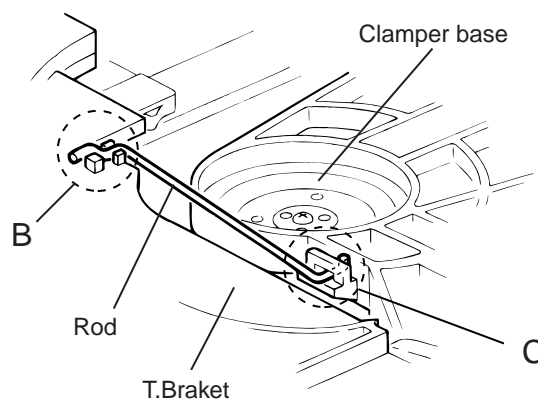

Fig.2
■ Removing the CD tray assembly (See Fig.2~4)
4. From the T.bracket section "B" and clamber base section "C", remove both of the edges fixing the rod(See Fig.2 and 3).